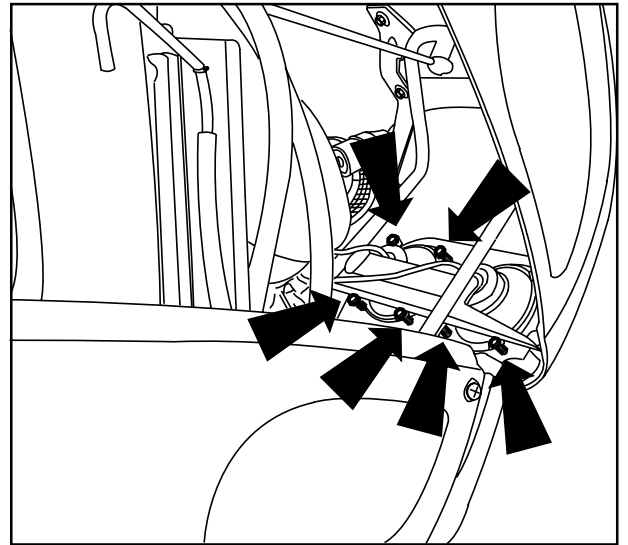

Fig. 143 - Headlight alignment adjusters.
- Halt the tractor on level ground facing a shaded wall (preferably white). The tractor must be unloaded and the tyres correctly inflated. Mark two crosses on the wall in front of the tractor headlights (Fig. 143).
- Adjust the headlight alignment screws to correct alignment as necessary (Fig. 143).